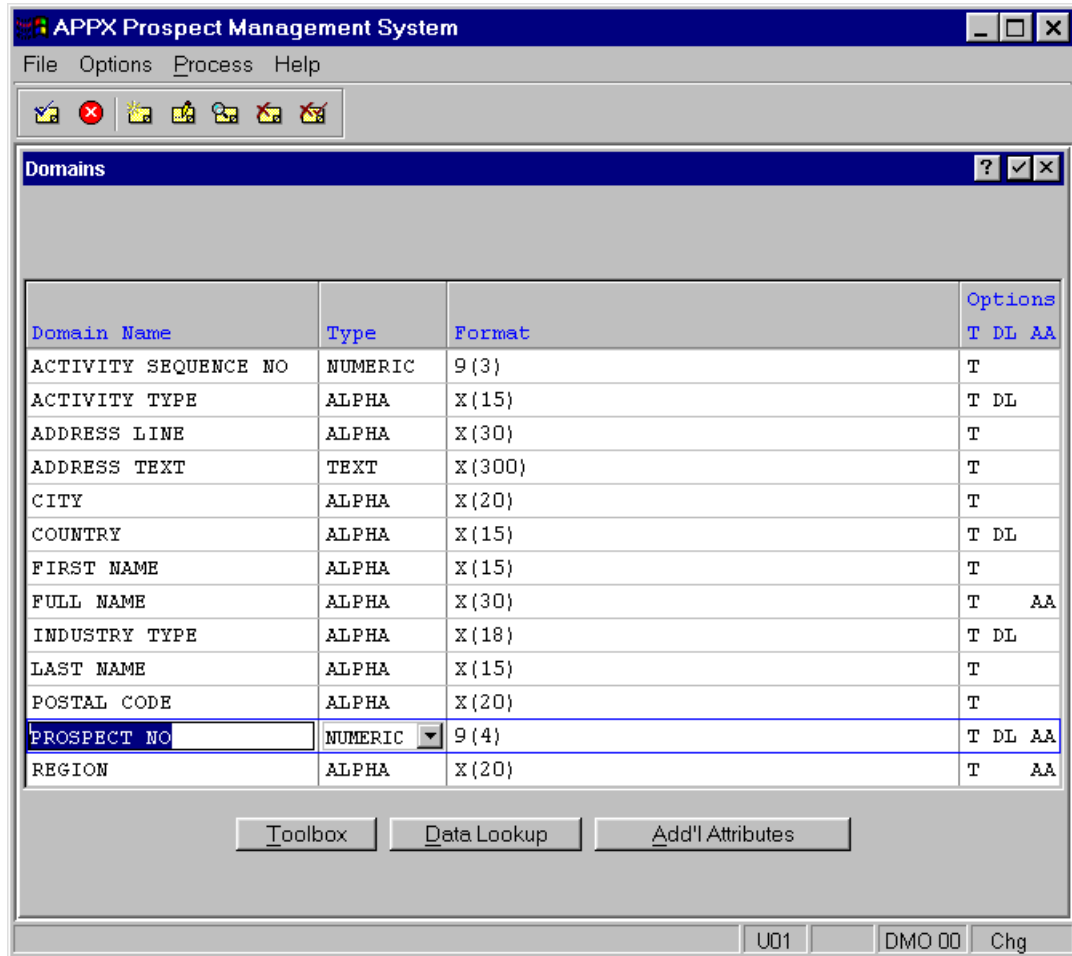

Figure E1.3 – The PROSPECT NO Domain
- You select the **PROSPECT NO** domain by clicking on the appropriate row or by pressing **ENTER** after using the cursor down key to highlight the appropriate row. *Figure E1.3* shows the list of domains with the **PROSPECT NO** domain selected.